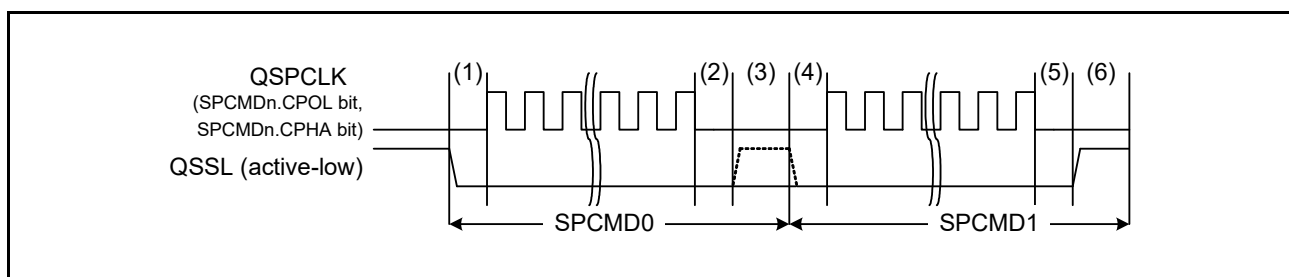

Figure 45.14 Burst Transfer Example in which QSSL Signal Level Keeping Function is Used (Single-SPI Mode) ($n = 0$ to 3)
In the other method, QSSL is kept asserted after a serial transfer is completed until the next serial transfer. Setting the SPCMDn.SSLKP bit ($n = 0$ to 3) allows the QSSL signal to be kept asserted after the transfer corresponding to the SPCMDn register is completed until the next transfer. Figure 45.14 shows a burst transfer example in which the QSSL signal level keeping function is used. The following describes operations (1) to (6) in the figure.
- (1) Clock delay period according to the SPCMD0 register setting. The setting should be made so that the delay period should be at least 1.5 QSPCLK cycles for the first transfer in the burst transfer.
- (2) QSSL negation delay period according to the SPCMD0 register setting. Since the SPCMD0.SSLKP bit is set to 1, QSSL is not negated even after QSSL negation delay period is over. The QSSL negation delay period depends on the SPCMD0.SLNDEN bit setting. When the SPCMD0.SLNDEN bit is 1, the QSSL negation delay period is determined by the SSLND register setting, and the delay period is 0 QSPCLK cycle when the SPCMD0.SLNDEN bit is 0.
- (3) Next-access delay period according to the SPCMD0 register setting. Since the SPCMD0.SSLKP bit is set to 1, QSSL is not negated even during next-access delay period. The next-access delay period depends on the SPCMD0.SPNDEN bit setting. When the SPCMD0.SPNDEN bit is 1, the next-access delay period is determined by the SPND register setting, and the delay period is 0 QSPCLK cycle when the SPCMD0.SPNDEN bit is 0.
- (4) Clock delay period according to the SPCMD1 register setting. The clock delay period depends on the SPCMD1.SCKDEN bit setting. When the SPCMD1.SCKDEN bit is 1, the clock delay period is determined by the SPCKD register setting, and the delay period is 0 QSPCLK cycle when the SPCMD1.SCKDEN bit is 0.
- (5) QSSL negation delay period according to the SPCMD1 register setting. The setting should be made so that the delay period should be at least one QSPCLK cycle for the last transfer in the burst transfer. Since the SPCMD1.SSLKP bit is set to 0, QSSL is negated after QSSL negation delay period is over.
- (6) Next-access delay period according to the SPCMD1 register setting. The setting should be made so that the delay period should be at least one QSPCLK cycle for the last transfer in the burst transfer. Set the SPCMD1.SSLKP bit to 0 to negate QSSL.